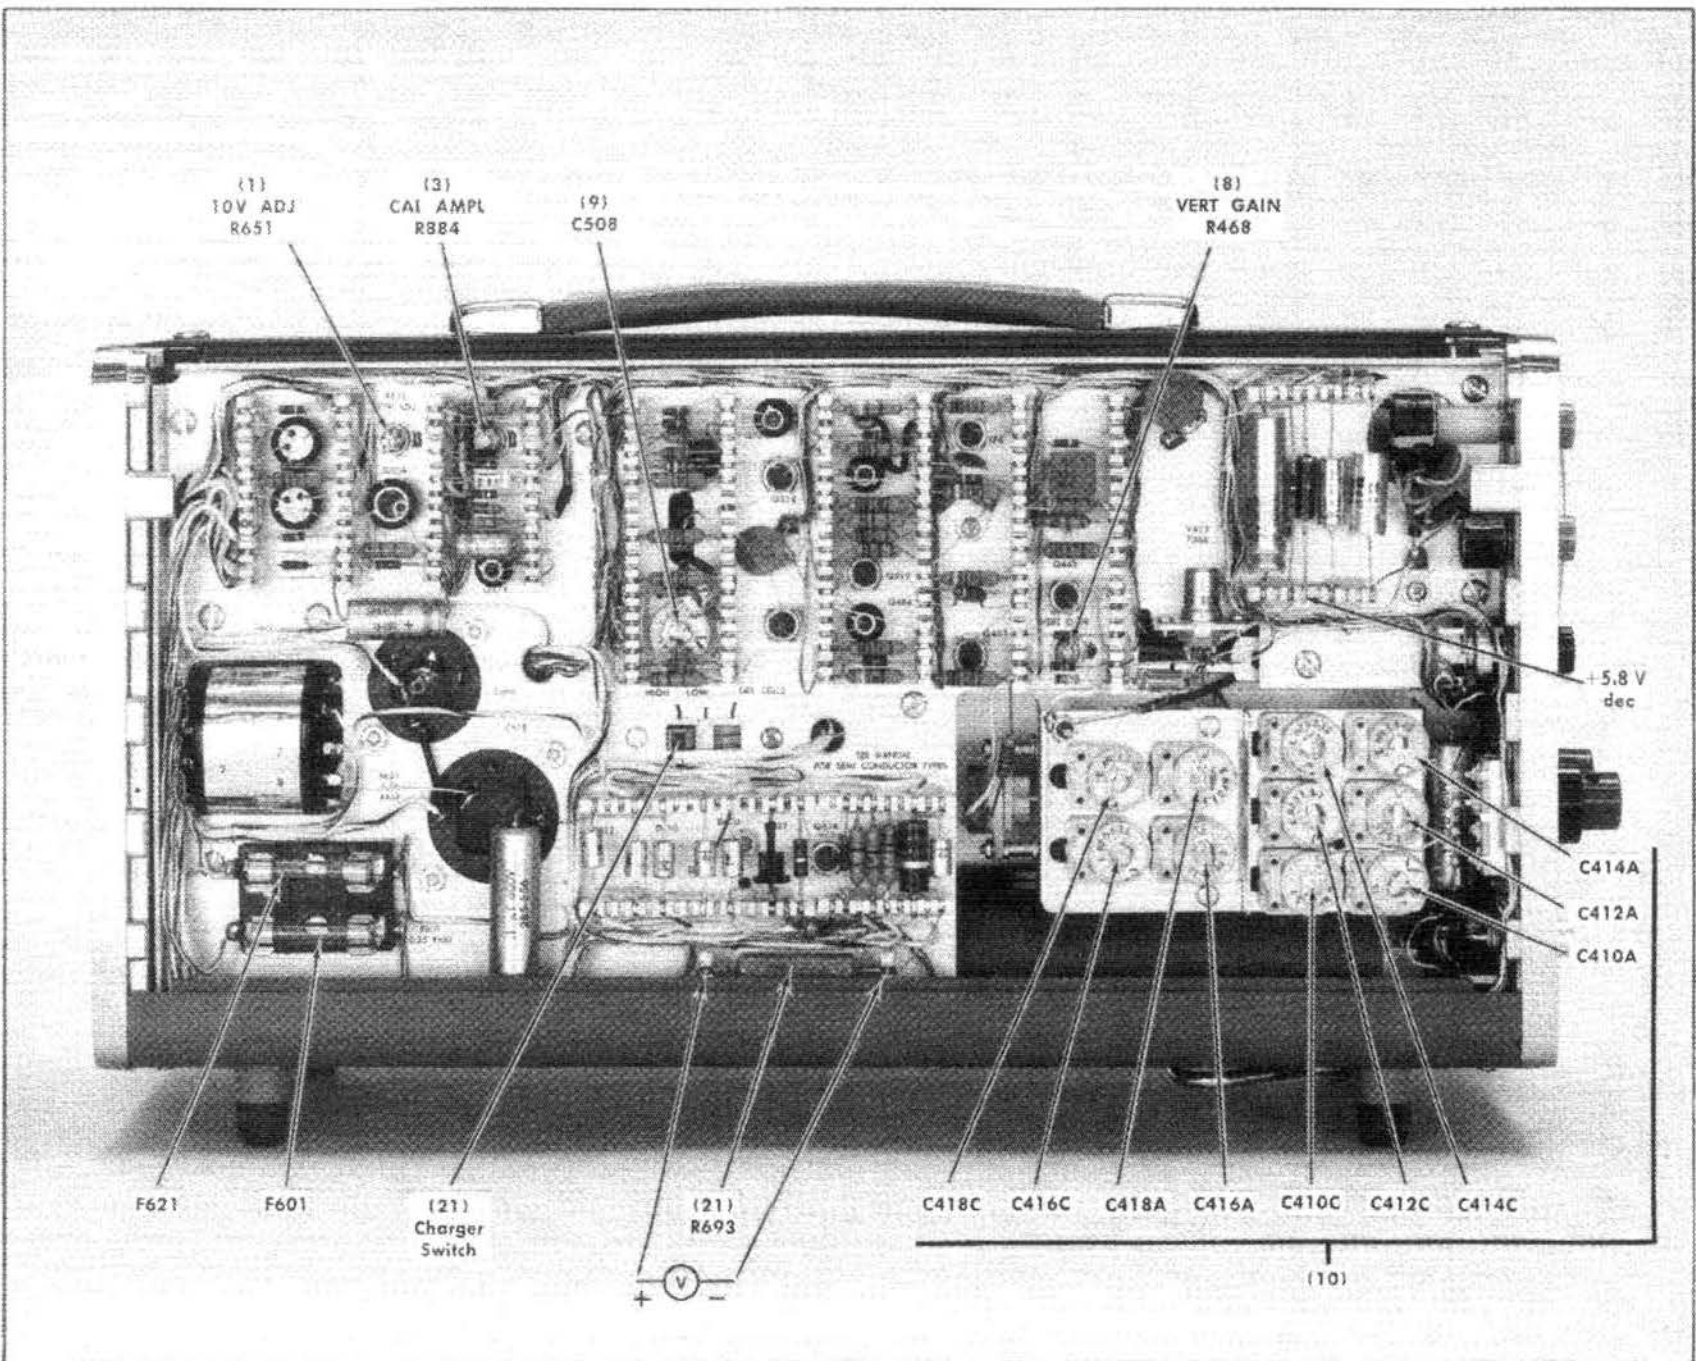

Fig. 6-5. Left-side view of the Type 321A Oscilloscope. The numbers in parenthesis refer to steps in the Calibration procedure.
- Approximately 4 divisions of signal should be displayed. Adjust the VERT GAIN R468 control (see Fig. 6-5) for exactly 4 divisions of vertical deflection.
- Adjust C508 (see Fig. 6-5) for best square-wave response; that is, for squarest leading top corner on the waveform.
- i. Using the information given in Table 6-2, adjust the two capacitors for each position (starting with the .02 VOLTS/DIV position) for best square-wave response. Location of the variable capacitors is shown in Fig. 6-5. Then, continue in a similar manner for the remaining VOLTS/DIV switch positions listed in the table. Maintain 4 divisions of deflection for each switch position providing the generator has sufficient output.
- Connect the dc voltmeter across R693. See Fig. 6-5 for location of R693 and polarity of voltage. Use Table 6-4 as a guide for typical voltage readings that should be obtained for the various switch positions.